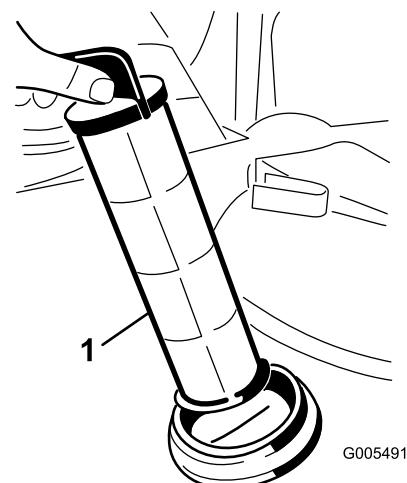

Figure 49
4. Pull the suction strainer out of the hole (Figure 49).